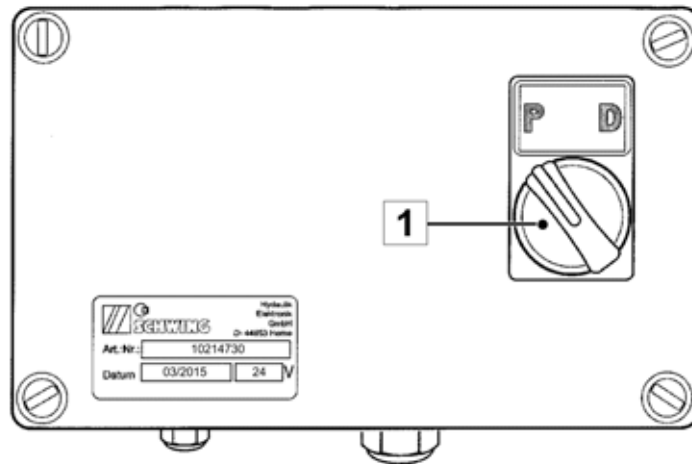

Fig. 113 E-box
- Then set the switch (1) on the e-box (**Fig. 113**) from position "D" for "Drive" to "P" for "Pump".